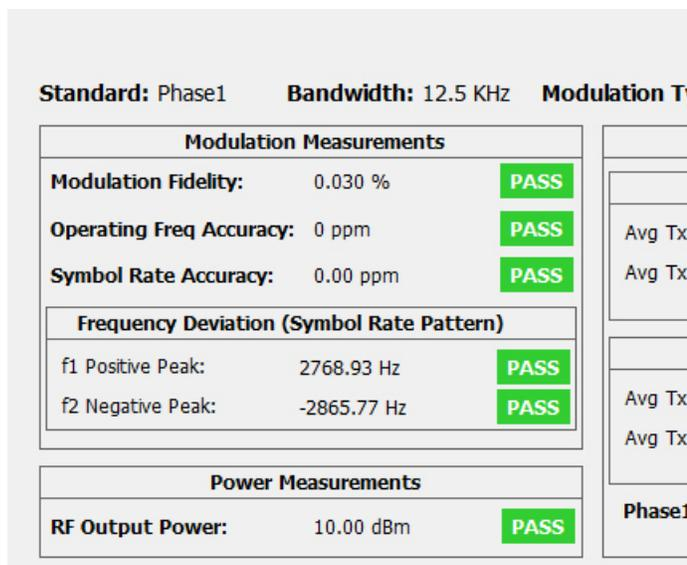

Figure 13. P25 Summary provides for Symbol Rate Accuracy and Frequency Deviation measurements of a symbol rate test pattern.
- **Result:** The result is displayed in the P25 Summary display at the time of the measurement. See Figure 13. The Limits tab in the P25 Summary Settings panel allows you to compare the result against a limit set for Pass/Fail. The user needs to record the result before proceeding to the next measurement.
- **Result:** The scalar result is provided in the P25 Summary display at the time of the measurement. See Figure 13. The Limits tab in the P25 Summary Settings panel allows users to compare the results against limits set for Pass/Fail. The users need to record the result before proceeding to the next measurement.